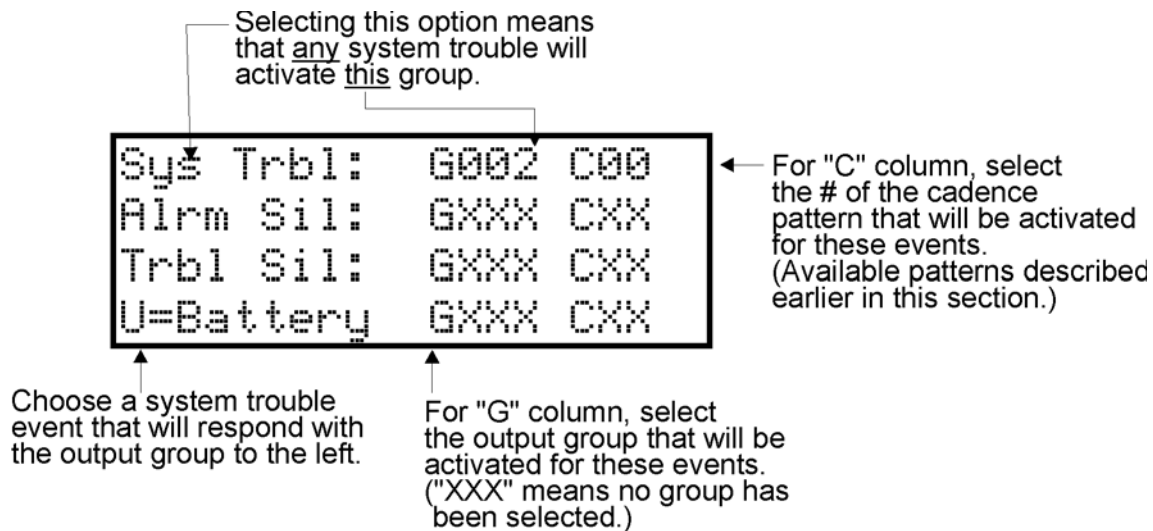

Figure 7-16 System Trouble Event Mapping Example
- Press 1 for Trouble Events. A screen similar to the one in Figure 7-16 will display. Select a group and a cadence pattern for each event as needed for your application. The U: field is for a user-specified trouble condition. You can program an output group and cadence pattern for any of the following events: